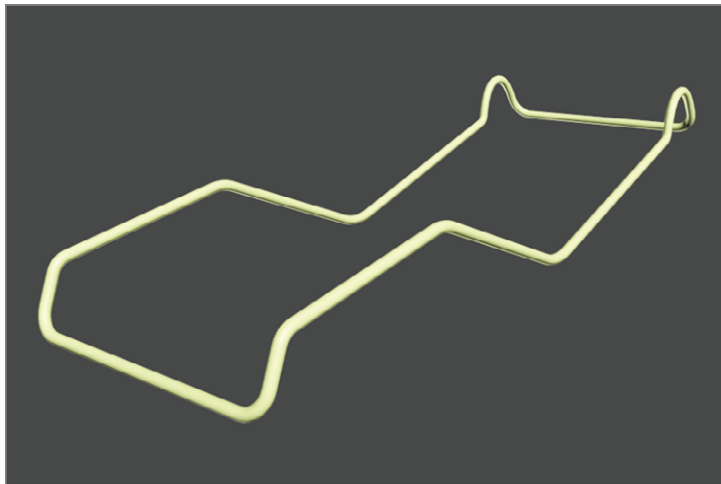

FIGURE 4.26 The radial mesh enabled
26. Click the Render button in the main toolbar () to see the results of the spline rendering, shown in Figure 4.26.